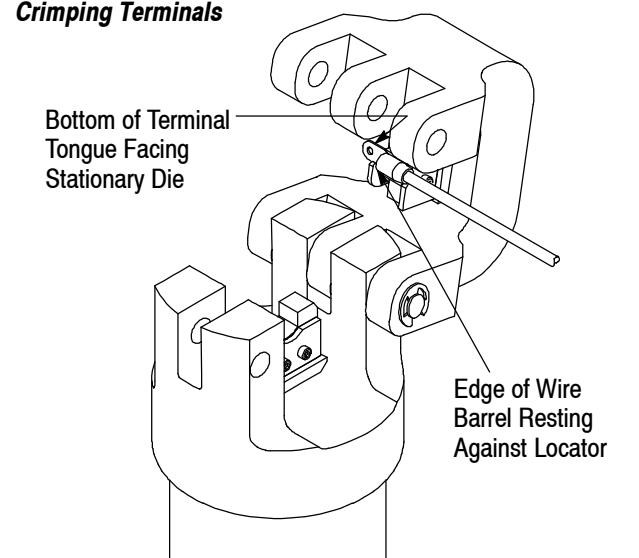

Figure 4
5. Place the terminal in the stationary die with the edge of the wire barrel resting against the locator and the bottom of the terminal tongue facing the stationary die. See Figure 4.